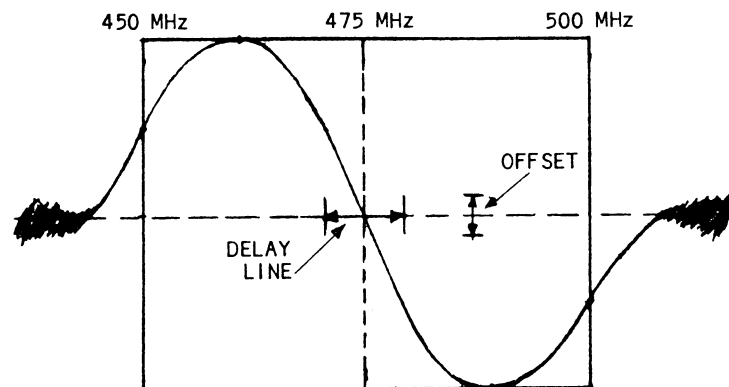

Figure 3-8 S-Curve
S-CURVE ALIGNMENT (Figure 3-8)
18. Connect DC Y-Input (vertical) of Oscilloscope to RD-301 DSCRM Connector (6). Terminate with  $50\Omega$ .
22. Place Sweep Generator in Sweep Mode. Single "S-Curve" should appear on scope display (see Figure 3-8).